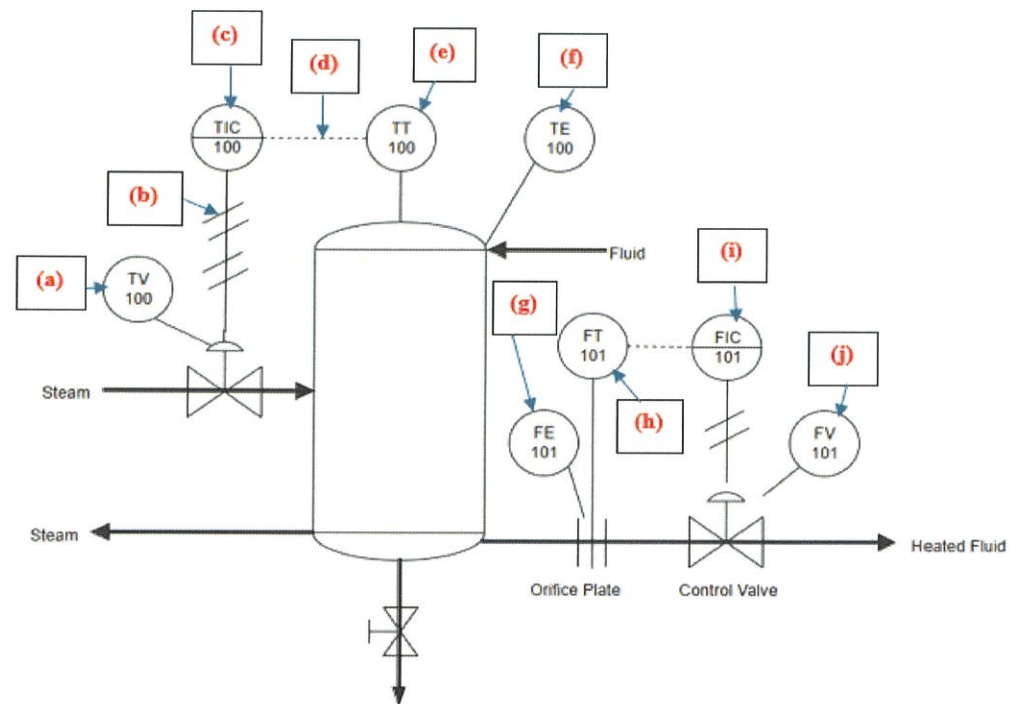

Figure A4(c) / Rajah A4(c)
- CLO1 (c) Based on Figure A4(c), change the symbols to the names of the equipment and lines for the symbols labelled (a) to (j) in the P&IDs below.